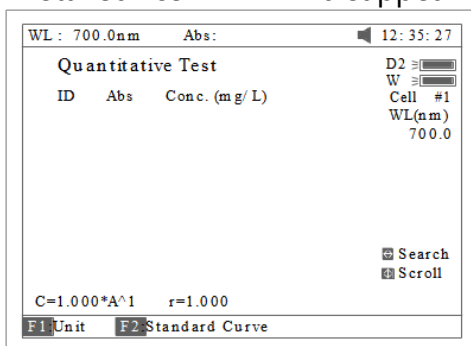

Fig 26
Press **【2】** in Main Menu for "Quantitative" Test (Fig 26). Press **【ESC/STOP】** to exit.
Note: .If no automatic changer installed "cell #1" will disappear in Fig26.
3. Press **【F2】** in Fig 26 for more items to select .See Fig 29.
Note: All sample results must be taken in screen Fig 26.